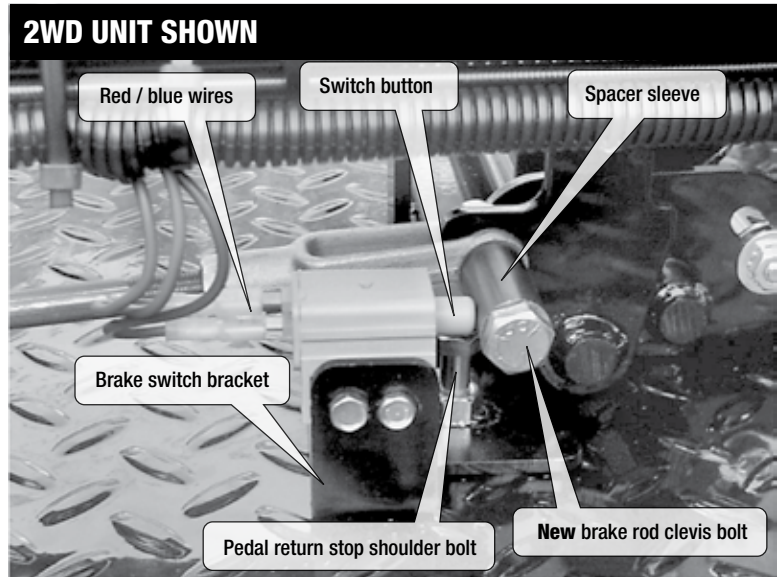
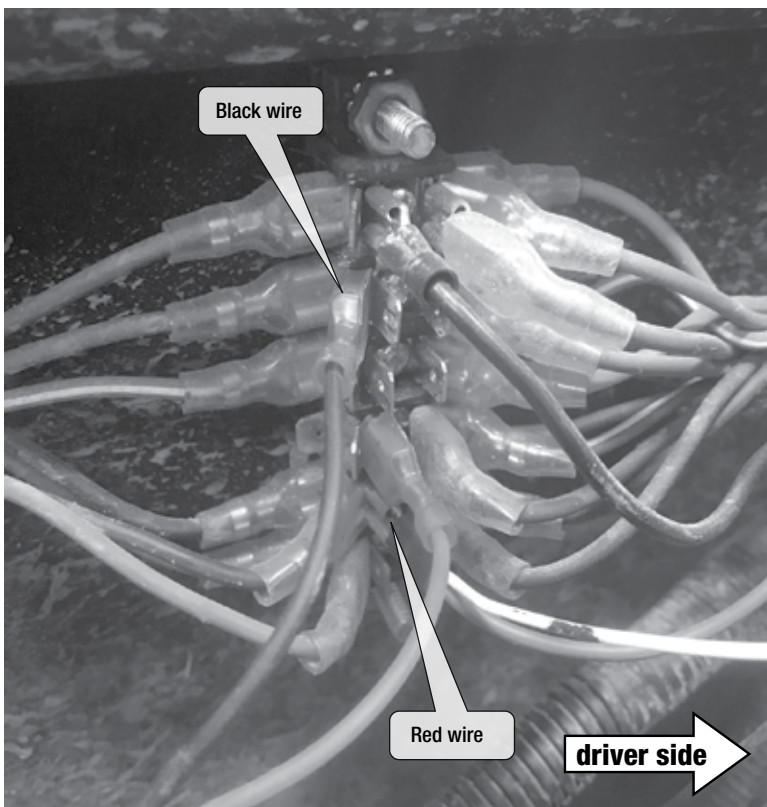

fig. 5
fig. 7
Place the spacer sleeve provided in the kit on the 3/8 x 2 1/2" bolt provided. Reconnect the brake rod using the new bolt with spacer sleeve so that the spacer is on the **right (passenger) side** (see figure 5). Tighten the 3/8 nylon lock nut onto brake rod clevis bolt using a 9/16" wrench until the end of the bolt is even with the top of the nut (The clevis should be free to rotate).
- 7 Using two #10 x 3/4" screws and nuts, install the switch with a 3/8" wrench on the bracket and adjust so that the spacer sleeve pushes the switch button in when the pedal is released as shown in figure 5.
Run the provided tail light wire harness from the switch to the terminal block. Plug the red wire onto the fifth terminal from the top with the solid brown wires. Then, plug the black wire onto the terminal second row from the top with the green wires as shown in figure 7. Re-install the terminal block cover. Attach the red and blue wires to the switch as shown in figure 5 (wires can be attached in any order).